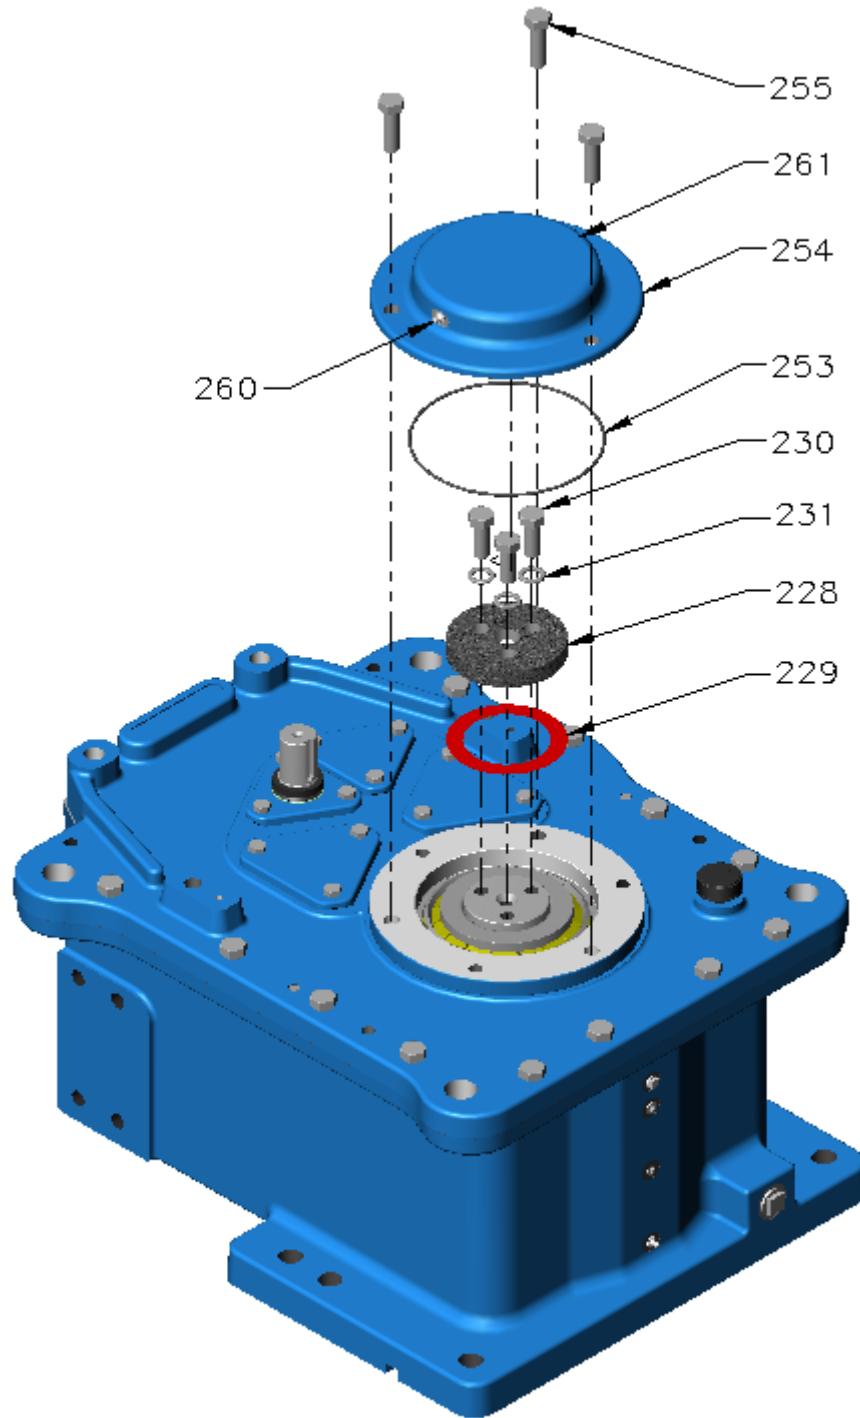

Figure 26 – Output Cap
- W. Output shaft shim selection (refer Figure 26):
- (1) Make sure any fixture or arrangement to prevent the output shaft **[244]** from rotating is removed before shimming.
- (2) Install thrust washer **[228]**, bolts **[230]**. Torque-tighten bolts **[230]** to value given in Table 1.
- (3) Use a Dial Test Indicator (DTI) to measure end float of output shaft.
- X. At output shaft, install following items (refer Figure 26):